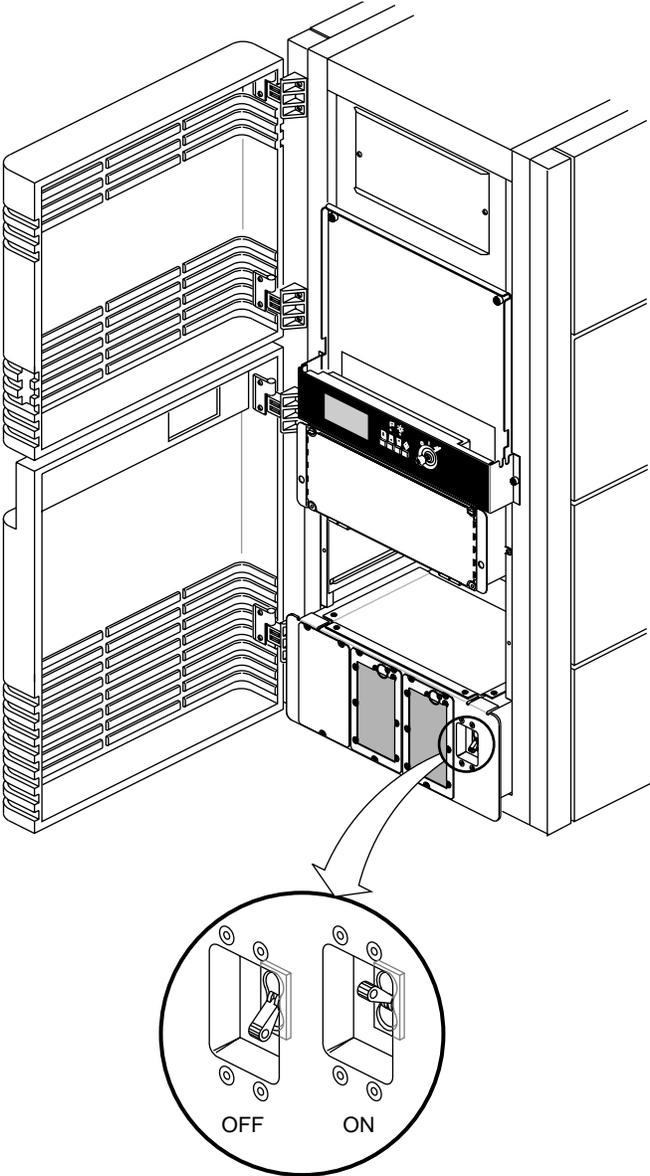

Figure 3-11 Power Switch
6. Turn on the system power switch (see Figure 3-11).